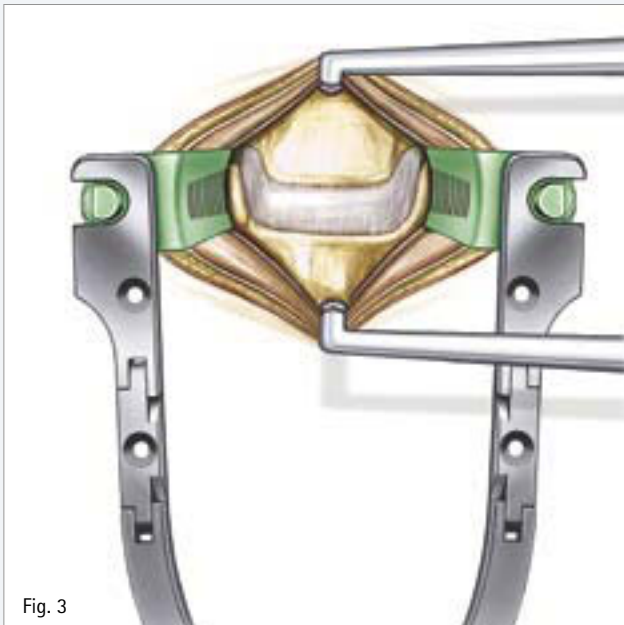

Fig. 3
- The distraction screws are placed in position and the CASPAR distractor is applied following the CASPAR technique (Fig. 3).